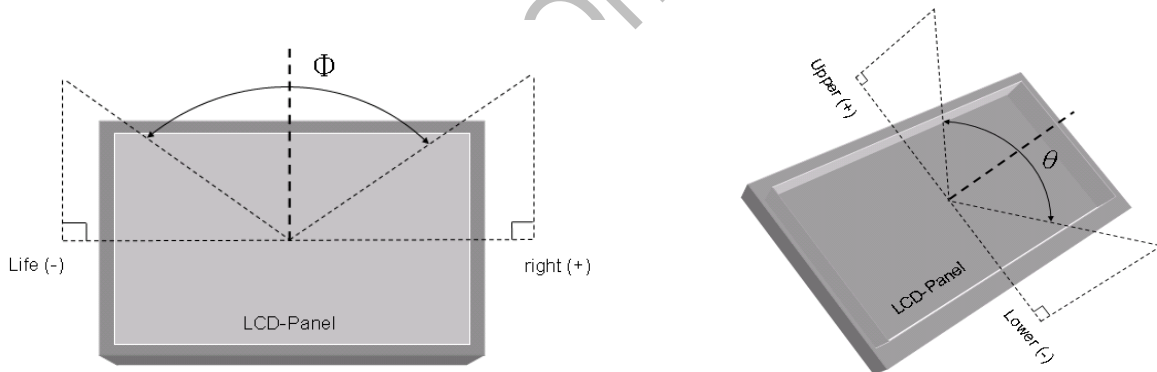

Fig.7-2 Definition of Viewing Angle
- \*4) Definition of Viewing Angle( $\theta, \psi$ ), refer to Fig.7-2 as below :